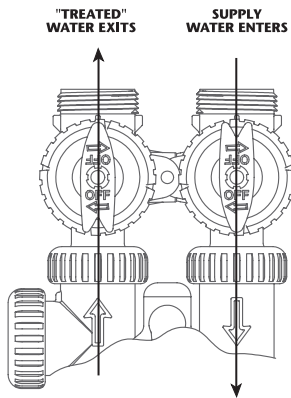

Figure 1
1. **NORMAL OPERATION POSITION:** The inlet and outlet handles point in the direction of flow, indicated by the engraved arrows on the control valve (**Fig. 1, page 4**).
3. Disconnect bypass from valve assembly using the nuts at the inlet and outlet head assembly (**see Fig. 1**). Be careful not to disconnect the nuts at the plumbing lines as these are under pressure.
13. Open a treated water line and turn bypass valve to the service position (**Fig. 1 on page 4**) and allow water to fill tank slowly. Once water is flowing to treated water faucet, observe tank for any leaks.